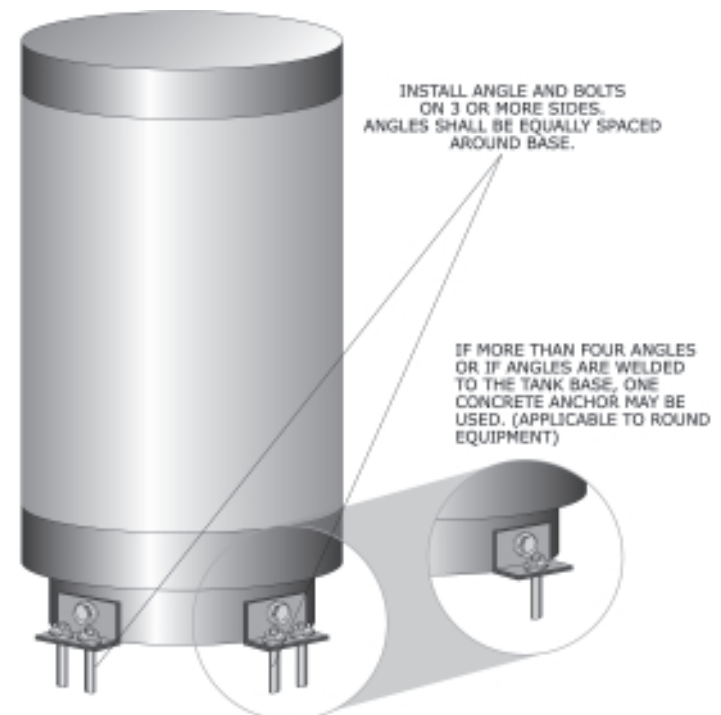

Figure 76: Three or more angles used to bolt down equipment with a round base.
- Three or more angles used to bolt down equipment with a round base: Figure 76 (page 39).